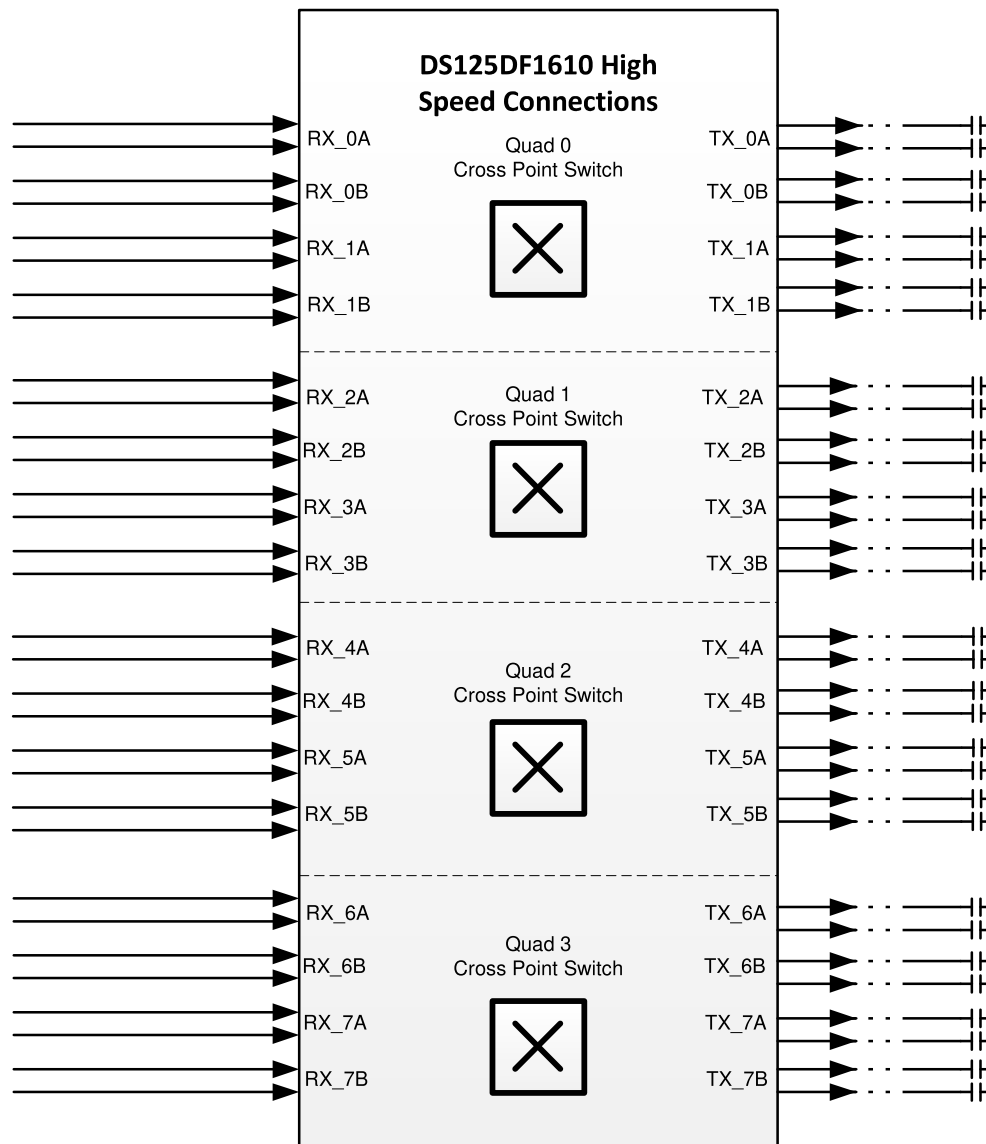

Figure 7. Typical Connection Diagram: High Speed Signals
- Compare schematic against the typical connection diagrams in the datasheet, Figure 6 and Figure 7